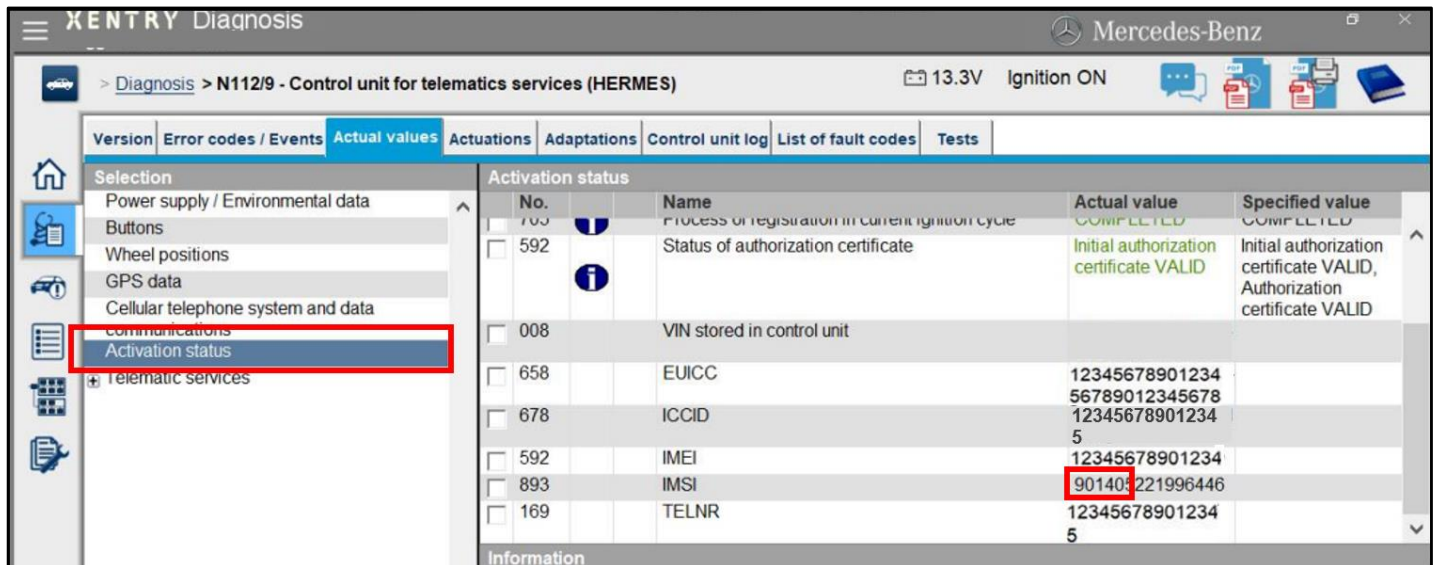

Figure 2
- If XENTRY Diagnosis “IMSI” actual value starts with “90140...” (Figure 2): **End Measure**.
2. Ensure that the vehicle has **sufficient mobile reception (Figure 2)**.